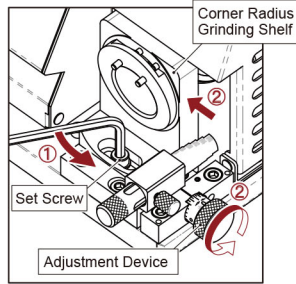

Fig. 1-1
3. Adjust the corner radius grinding shelf to the initial position. (Fig. 1-1)
- ① Loosen the set screw of the shelf.
- ② Turn the adjustment device counterclockwise to move the shelf to the left until it stops.